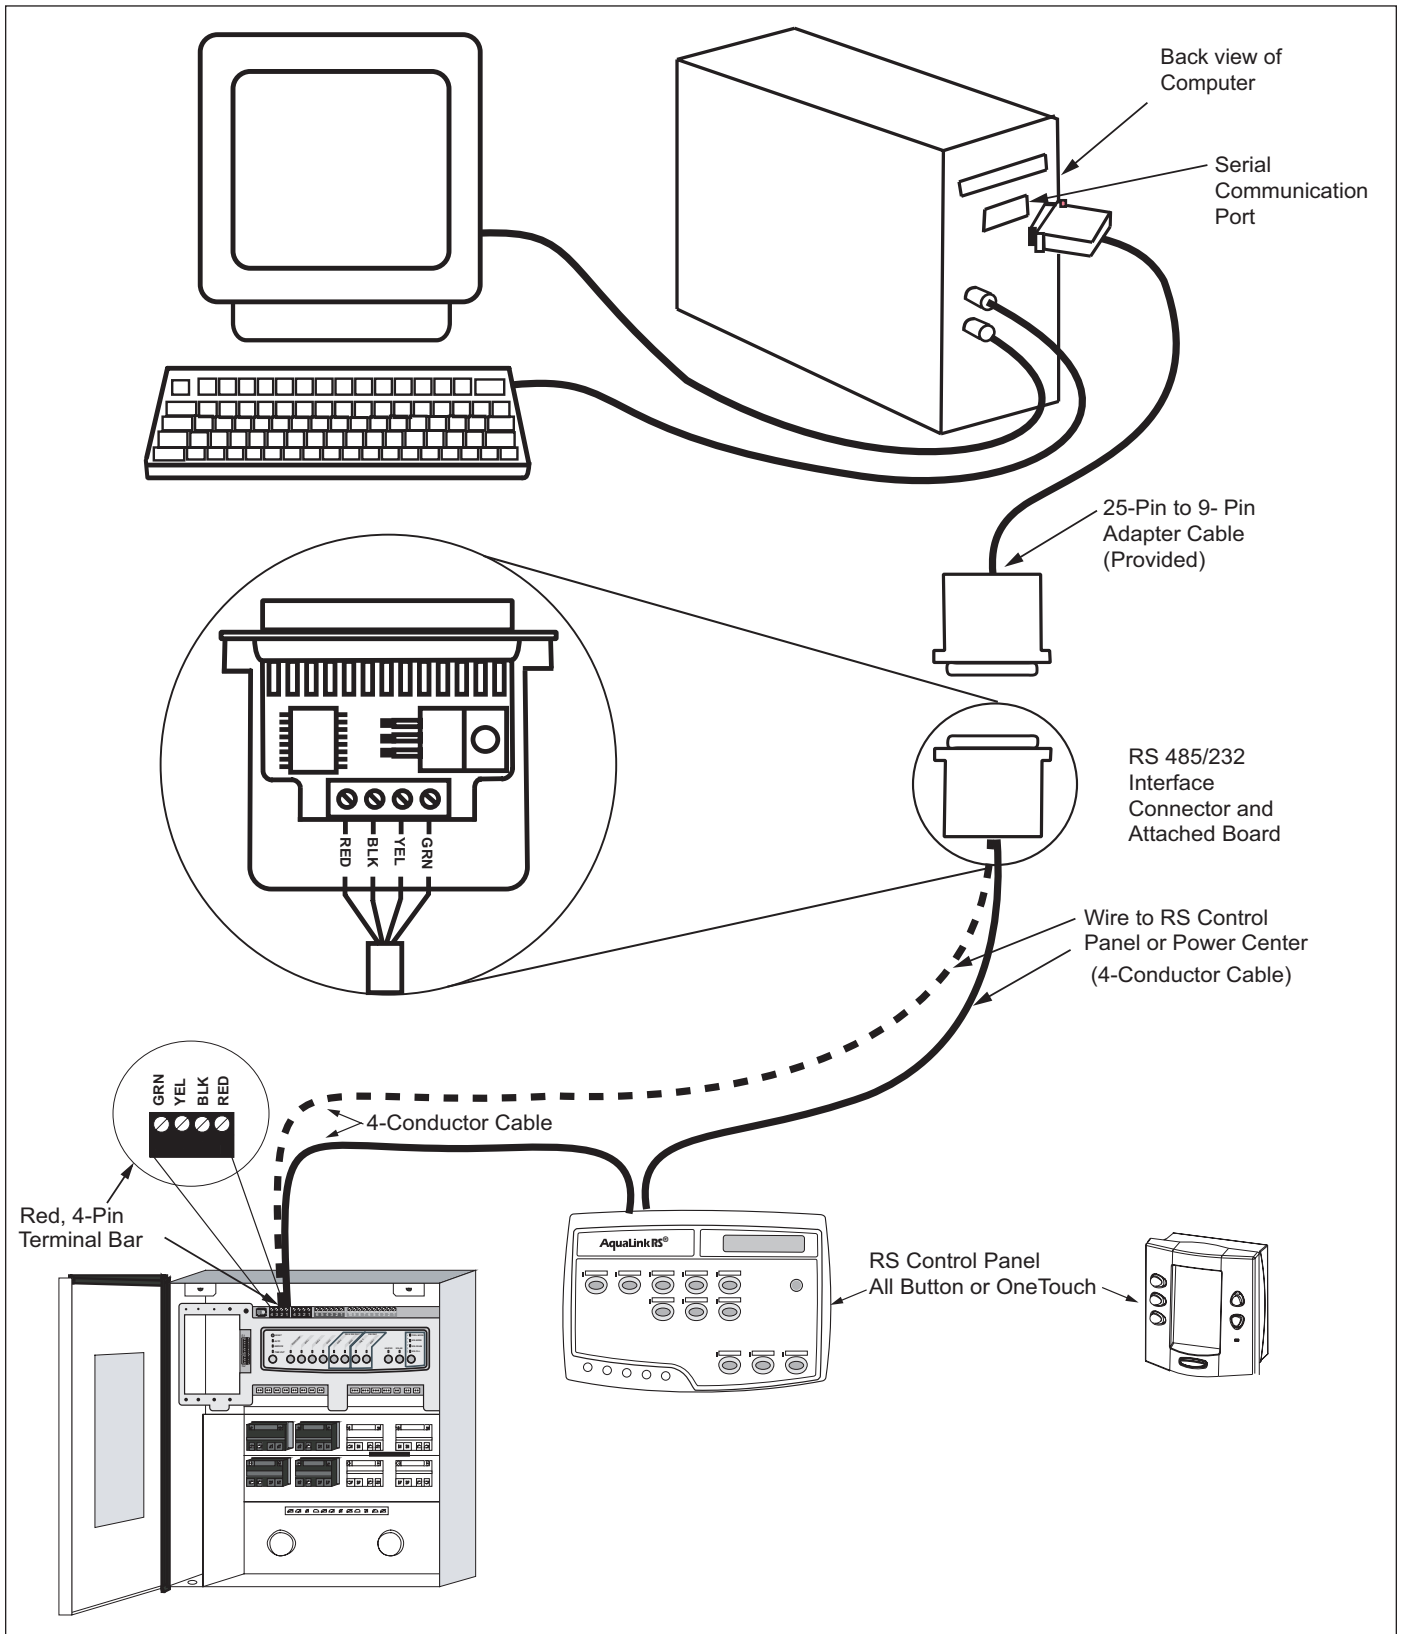

Figure 3. Wiring Diagram
NOTE Please refer to the wiring diagram in Figure 3 when performing the following procedure. A USB-to-Serial Adapter is included if your computer does not have a serial port. Please load the USB-to-Serial Adapter Installation CD if you are planning to use the USB-to-Serial Adapter.
3. Run a 22 AWG, 4-conductor color coded wire from the red 4-pin terminal bar in the AquaLink system (either in the RS Control Panel as shown in Figure 3 by the solid line or in the Power Center as shown by the dotted line) to your computer location.
5. Connect the 4-conductor wire as shown in Figure 3, and reassemble the connector and housing.